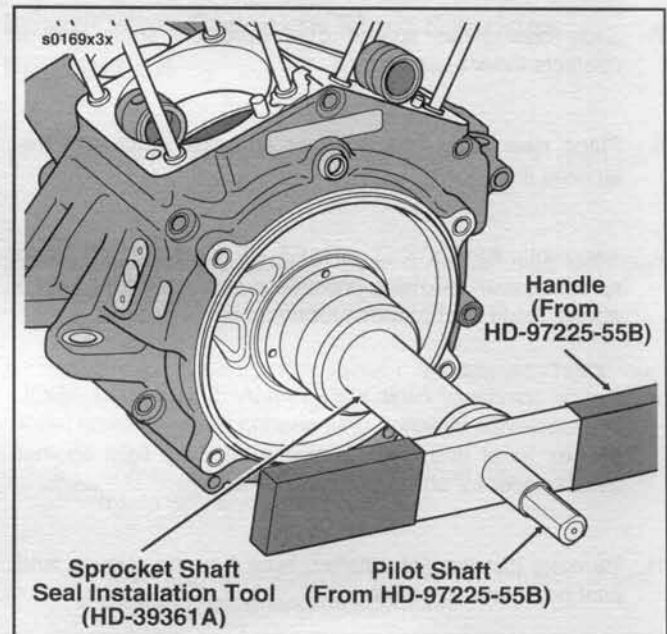

Figure 3-89. Pressing Seal into Crankcase
4. See Figure 3-89. Use HD-39361A SPROCKET SHAFT SEAL INSTALLATION TOOL and press seal (7) into crankcase with lip (spring side) facing out (away from flywheels). To assemble and use SPROCKET SHAFT SEAL INSTALLATION TOOL see below: